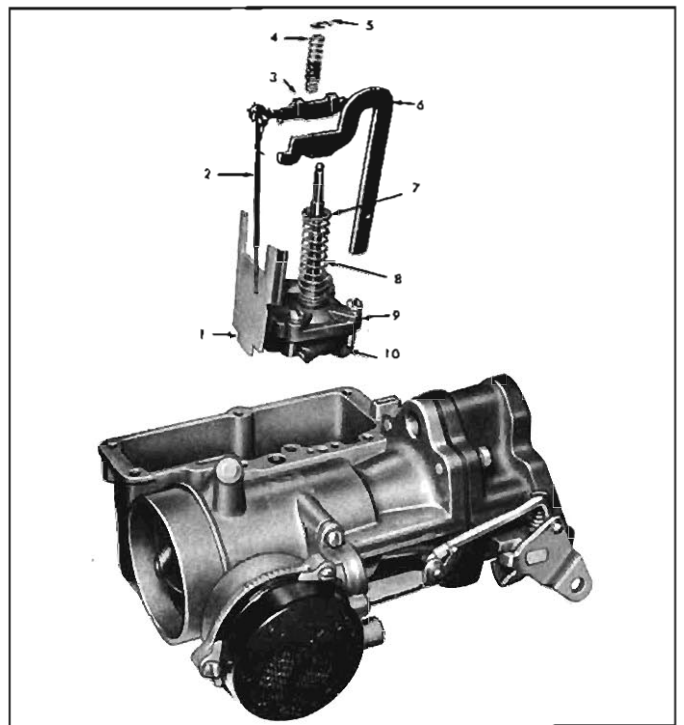

Fig. 9-37—Pump and Metering Rod Assembly
9. Install pump and metering rod linkage as follows: (Refer to fig. 9-37.)